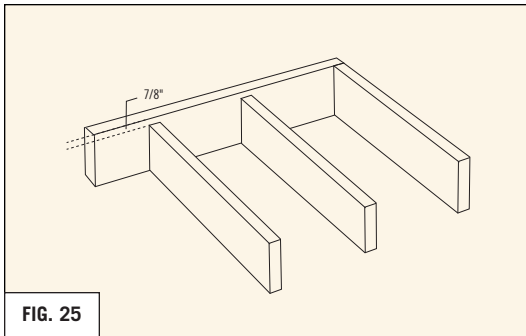

FIG. 25
- Raise the rim joist and outer joists by 7/8" to support the bullnose. (**REFER TO FIG. 25**)